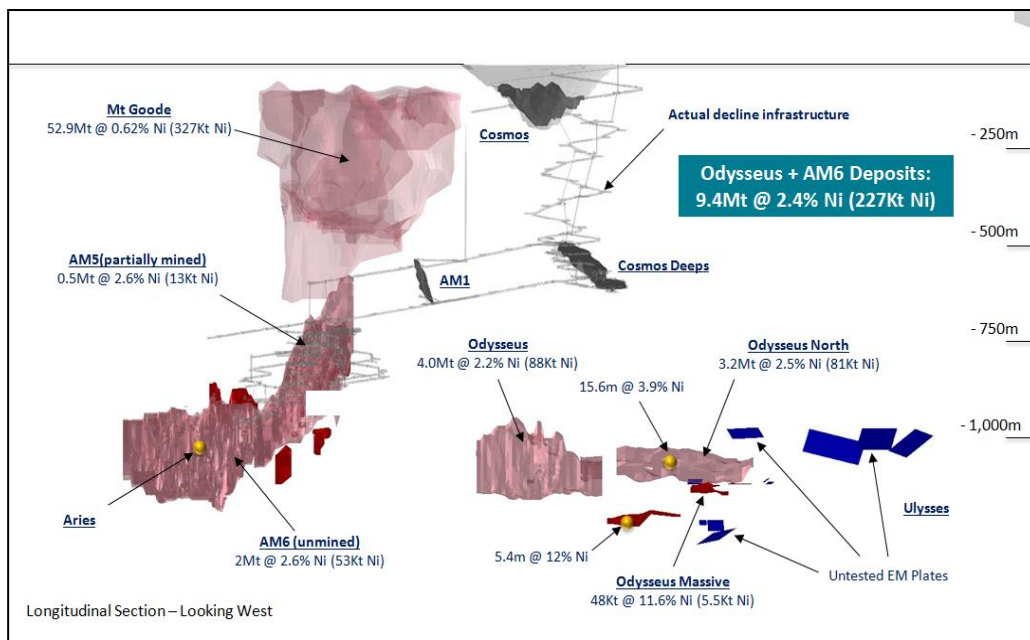

Figure 1: High priority exploration opportunities located around the existing resources
During the review of the extensive Cosmos data base it became apparent that there are multiple targets located adjacent to current mining infrastructure and resources which have potential to add significant value to the operation. Given the high nickel tenor and value of the massive sulphide ores in the mining area, even small discoveries can significantly enhance the economics of the Odysseus and Alec Mairs (AM) deposits. Of these targets, Odysseus Massive, Ulysses and Aries are likely to be accessible from the development of the current resources (Figure 1), and are therefore ranked very high in priority.